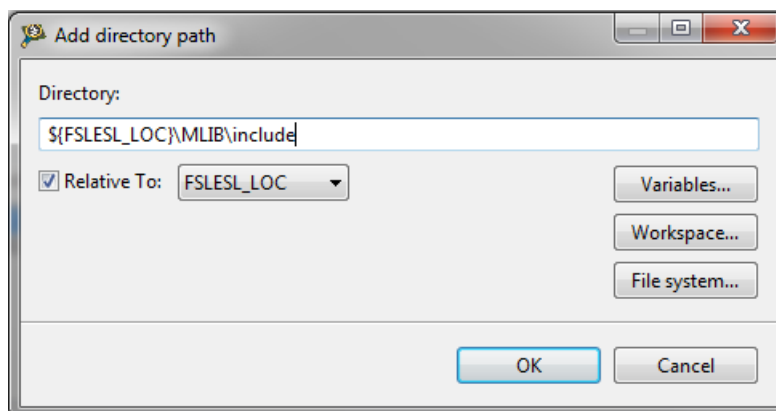

Figure 1-12. Library include path addition
19. Tick the box Relative To, and select FSLESL_LOC next to the box. See Figure 1-12. Click OK.